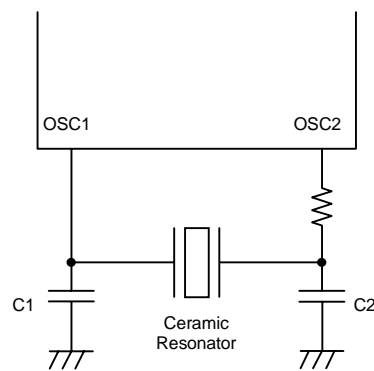

Figure 3 Ceramic Resonator Circuit
- (1) When oscillated internally under the oscillating conditions in Fig.3, generated voltage can be over the maximum limit of the VDD.
- (2) Average for 100 ms period.
- (3) Operating supply voltage VDD must be held until the microcontroller enters in the standby mode after the execution of the HALT instruction. Any chattering should not be generated at the PA3 pin during the HALT instruction execution cycle.
- (4) Recommended circuit constants that are verified by the oscillator manufacturer, using oscillator characteristic evaluation board selected by SANYO.
- (5) The OSC1 pin will have schmitt characteristics when external clock oscillator or the two-pin RC oscillator is selected as an oscillation option.
- (6) These are the results of testing using the value at each part on the Fig.3 circuit which is recommended by SANYO. These results do not include the current applied to the output transistor, nor the current applied to the transistor with a pull-up resistor on the LSI.
- (7) fCFOSC is the frequency when the values in table 1 are used.
- (8) This indicates the elapsed time that is required before the oscillation becomes stable after the VDD exceeds the minimum limit of the operation supply voltage.
- (9) $TCYC=4 \times \text{system clock period}$
- (10) When used in an environment that may result in condensation, note that a current leakage between PE1 and adjacent pins or a current leakage at external integration circuit using R and C could occur.